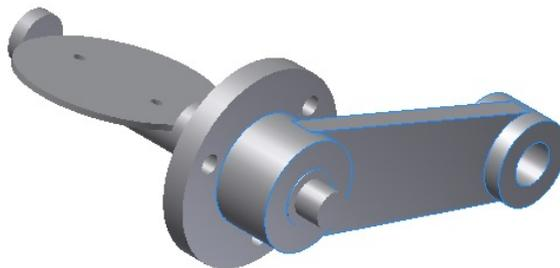

Figure 9-74 Assembly after assembling the Plate
12. Select the other hole on the flat face of the Shaft to apply the constraint. Choose the **Apply** button to apply the constraint and then choose the **Cancel** button to exit the dialog box. The assembly after assembling the Plate is shown in Figure 9-74.